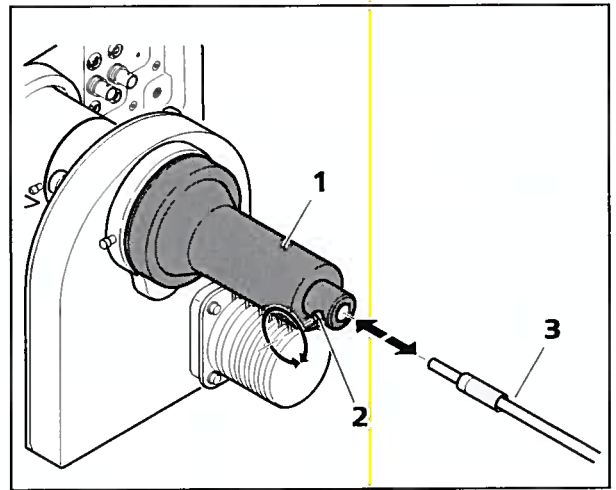

Fig. 6-6 Connect the optical fiber to the illumination adapter
- Loosen the fixing screw (wrench size 3) (Fig. 6-6/2) on the illumination adapter (Fig. 6-6/1) and insert the metal end (Fig. 6-6/3) gently until it stops.
- Then retighten the fixing screw (Fig. 6-6/2).